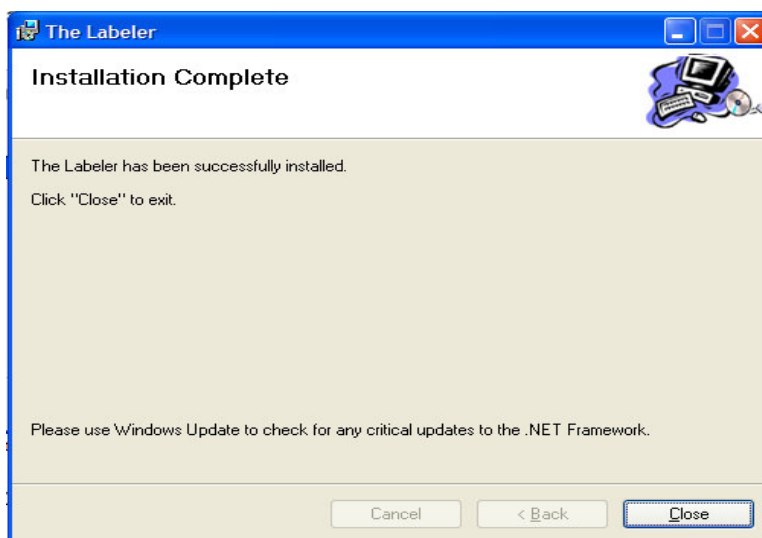

Figure 2.1.6: Installation is Complete Screen
5. Once the installation process is completed, it should automatically take you to the Installation is Complete screen (see Figure 2.1.6).